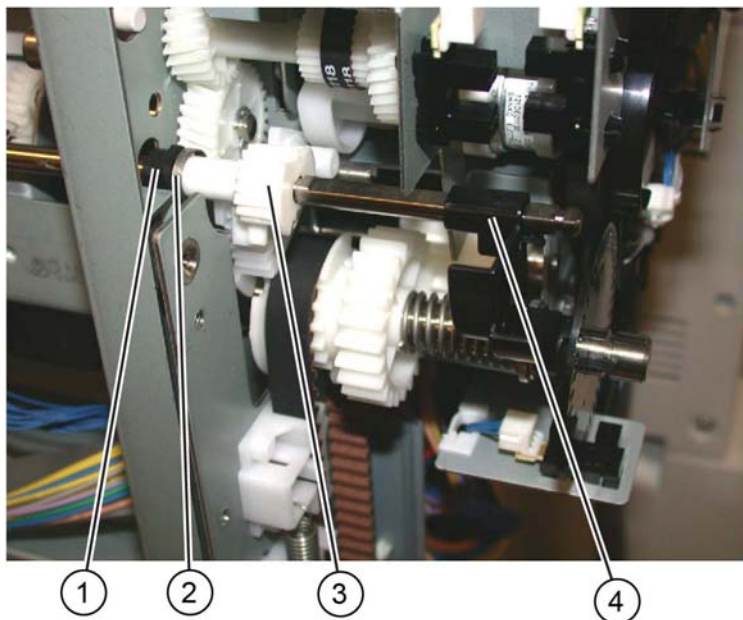

Figure 13 Bushing, spring and gear installation
5. Install the bushing, spring and gear onto the rear end of the set clamp shaft, **Figure 13**:
- a. Install the bushing (1).
- b. Install the spring (2).
- c. Install the gear (3).
- d. Install the stack height sensor flag (4) onto the rear end of the shaft as shown.